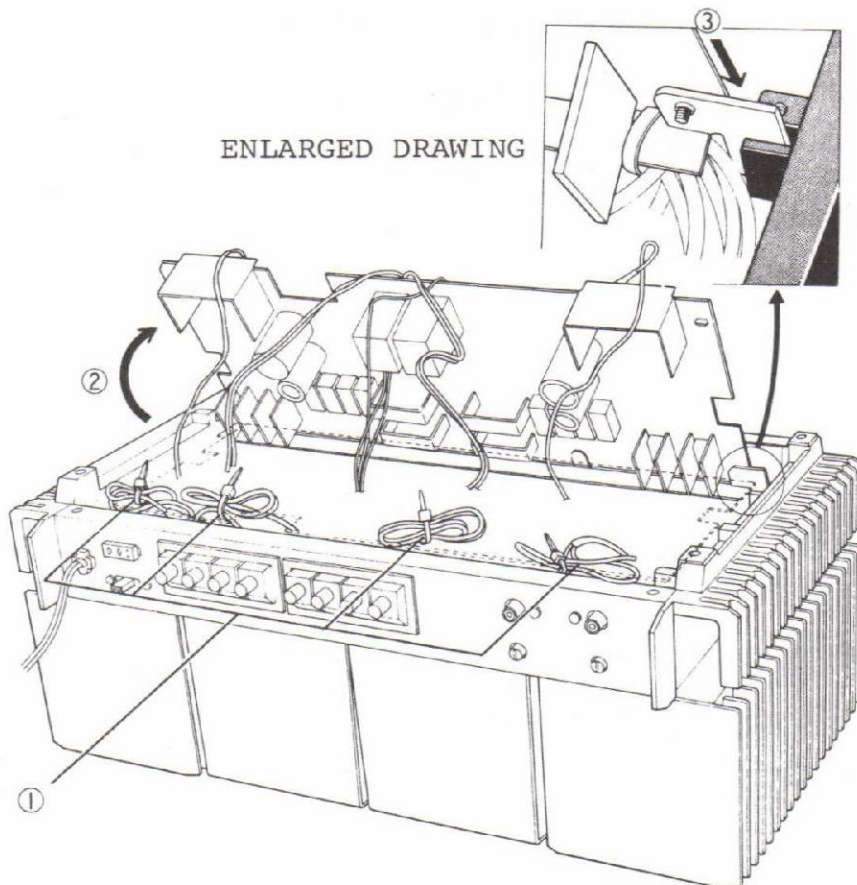

Fig.2
[Cutting position: Fig.2 ① ]
- 4) Elevate PCB in direction shown by ② in Fig.2.
- 5) Finally, insert PCB into a groove of the radiator shown by ③ in Fig.2.